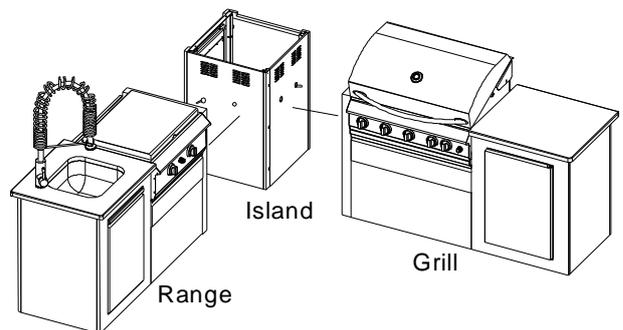

Fig. 4
- Align the 3 individual modules closely as shown in Figure 4 then proceed to Step 4 to attach the Regulator with Hose.